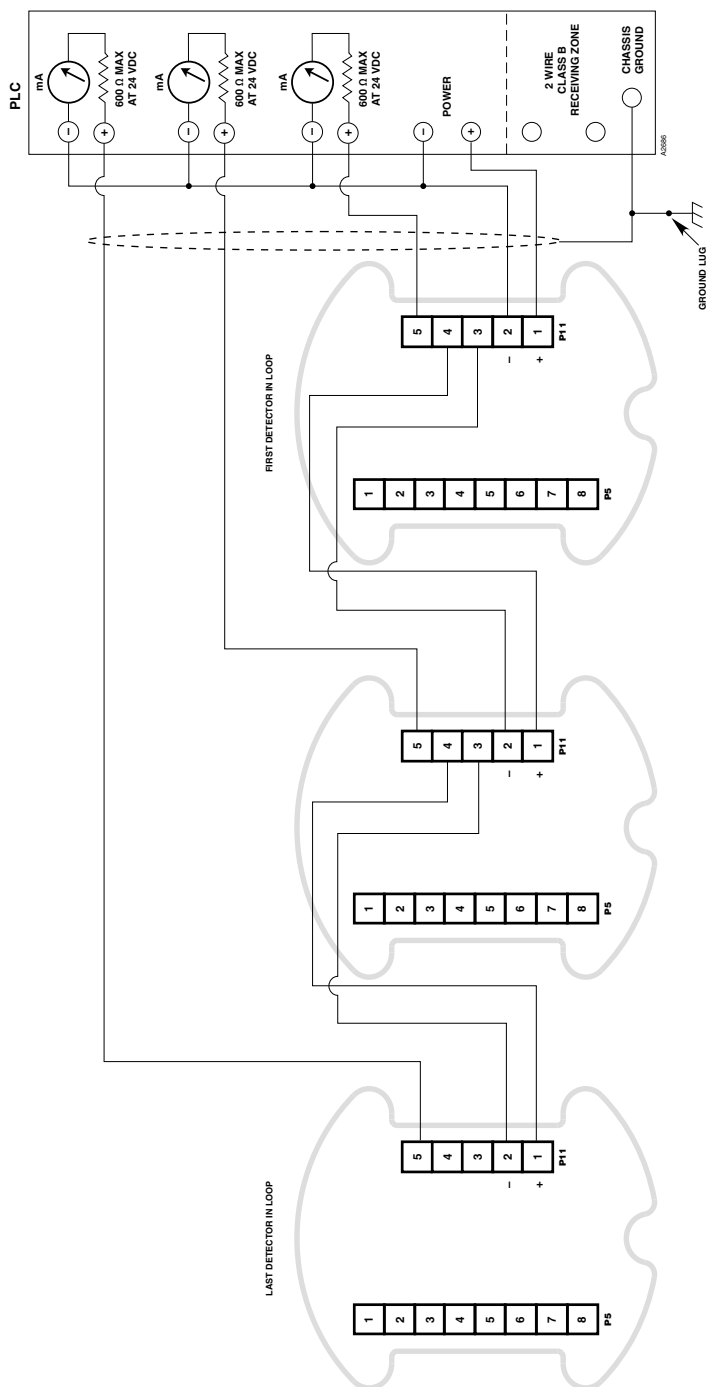

Figure 13—Multiple Detector Wiring (0-20 mA used, Relays not used)
- Figures 13 and 14 show wiring for multiple detector configurations.